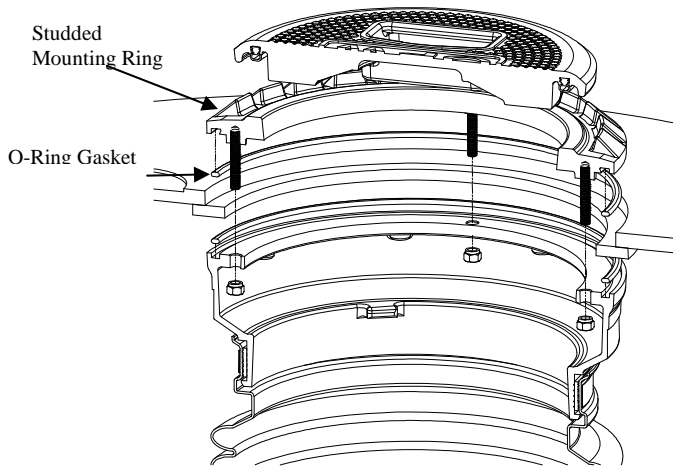

Figure 4
14. Place the mounting ring over the containment buckets and rotate the mounting ring until the studs are aligned with the bucket ring holes. (See Figure 4.)